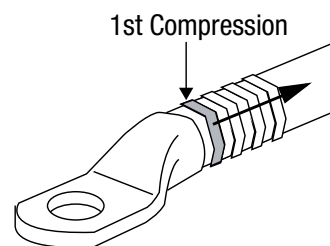

Figure 8
- For terminals, start the 1st compression from the side nearest the terminal pad and travel back along the cable. (Fig.8)